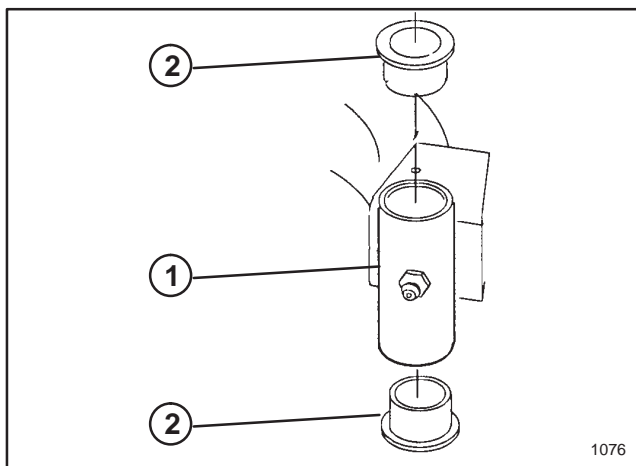

Figure 8
2. Remove retaining ring, thrust washer(s) and spacer (if installed on top) from top of castor spindle (Fig. 8).
4. Insert pin punch into mounting tube and drive out bushings (Fig. 8). Clean inside mounting tube.